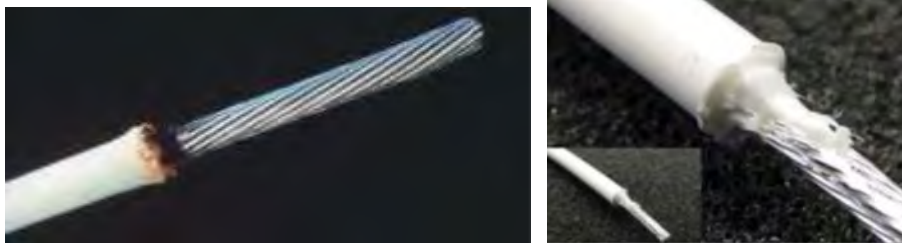

Figure 186
- c. If thermal stripper was used, ensure the jacket is not burned or melted into the wire strands as shown in Figure 186.